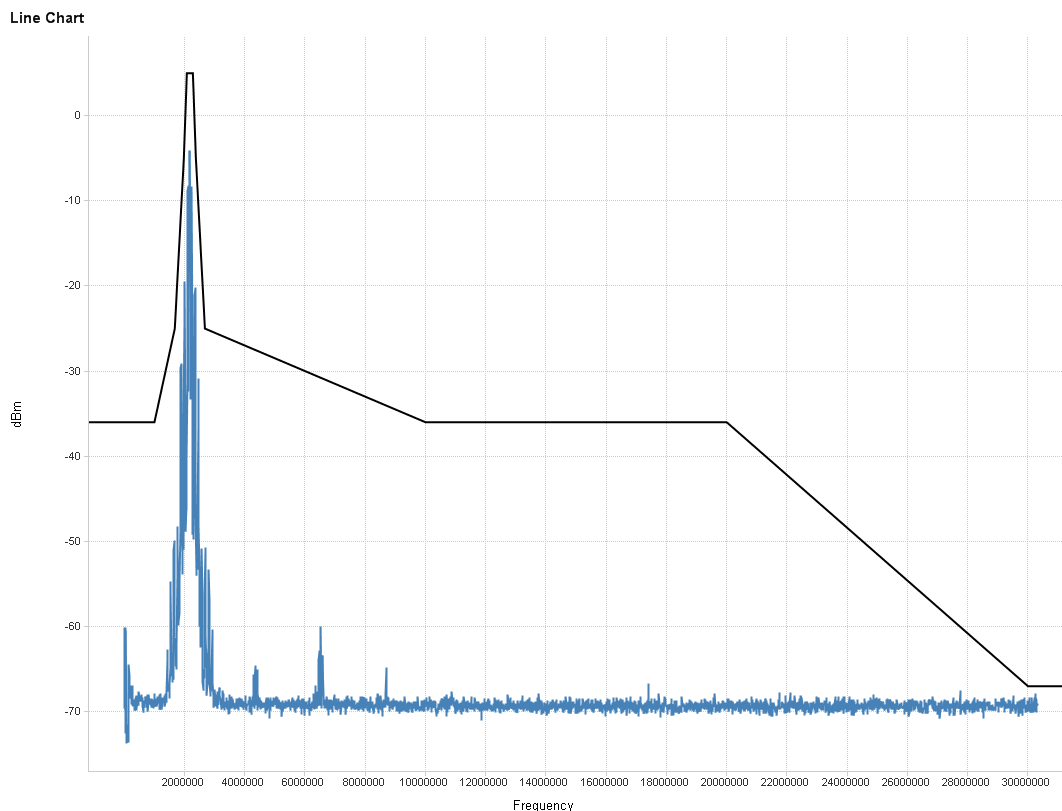

Figure 5. Emission Spectrum for 115.2kbps Transmission: up to 30MHz
11. Now look at the output spectrum of the transmitter by connecting a spectrum analyzer to J1. Example output spectrum up to 30MHz for 115.2kbps setting is shown in Figure 5.